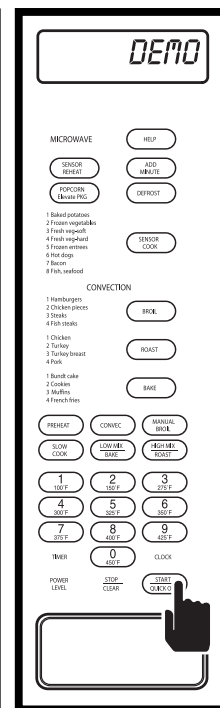

Figure 3-67.
3. Press and hold QUICK ON/START for three seconds. Display will flash “DEMO - ON - DURING - DEMO - NO - OVEN - POWER ” then show a steady “DEMO “ (See Figure 3-67). While in Demo Mode, any of the keys can be pressed and the display will show or flash the appropriate message. If the QUICK ON/START key is pressed, the microwave oven will function in all respects except that microwave cooking components will not be energized and the timer on display will abbreviate the count down from minutes to seconds.